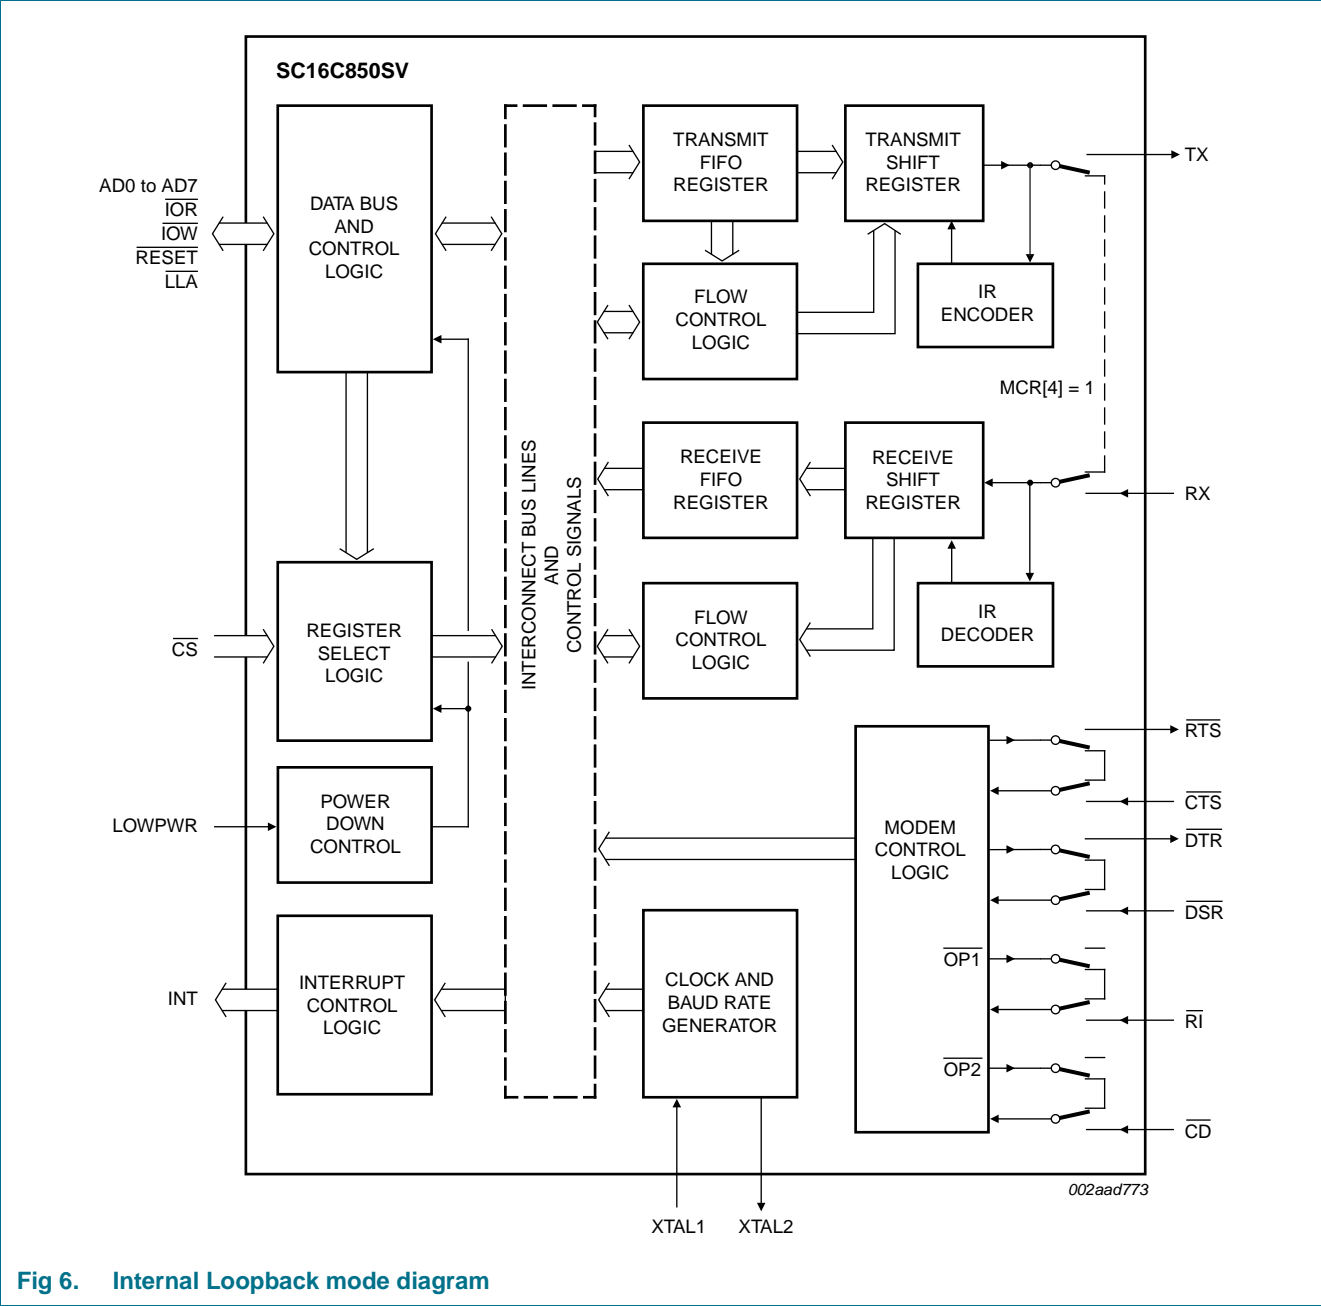

Fig 6. Internal Loopback mode diagram
The internal loopback capability allows on-board diagnostics. In the Loopback mode, the normal modem interface pins are disconnected and reconfigured for loopback internally (see Figure 6). MCR[3:0] register bits are used for controlling loopback diagnostic testing. In the Loopback mode, the transmitter output (TX) and the receiver input (RX) are disconnected from their associated interface pins, and instead are connected together internally. The $\overline{\text{CTS}}$, $\overline{\text{DSR}}$, $\overline{\text{CD}}$, and $\overline{\text{RI}}$ are disconnected from their normal modem control inputs pins, and instead are connected internally to $\overline{\text{RTS}}$, $\overline{\text{DTR}}$, MCR[3] ($\overline{\text{OP2}}$) and MCR[2] ($\overline{\text{OP1}}$). Loopback test data is entered into the transmit holding register via the user data bus interface, AD[7:0]. The transmit UART serializes the data and passes the serial data to the receive UART via the internal loopback connection. The receive UART converts the serial data back into parallel data that is then made available at the user data interface AD[7:0]. The user optionally compares the received data to the initial transmitted data for verifying error-free operation of the UART TX/RX circuits.